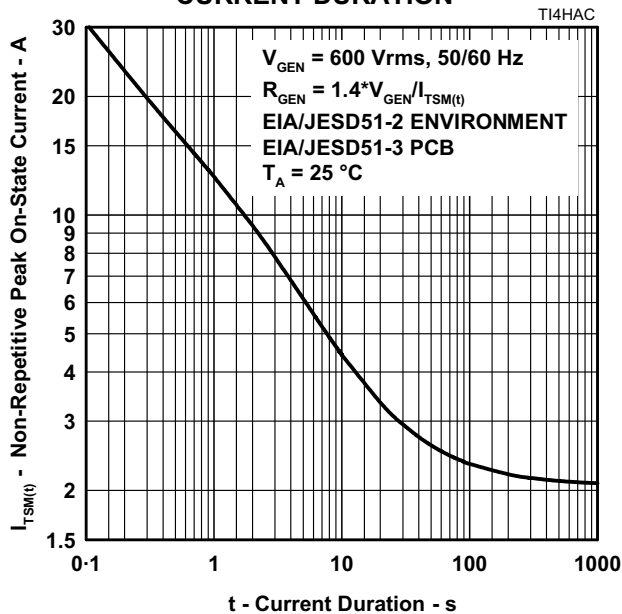

Figure 5.
4. EIA/JESD51-2 environment and EIA/JESD51-3 PCB with standard footprint dimensions connected with 5 A rated printed wiring track widths. See Figure 5 for the current ratings at other durations. Derate current values at  $-0.61\% / ^\circ\text{C}$  for ambient temperatures above  $25^\circ\text{C}$ .